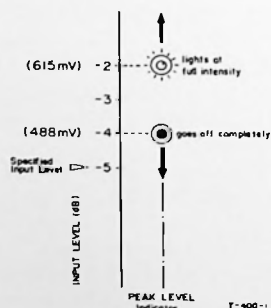

Fig. 7-9 LED Peak Level Indicator Setting
15. Adjust VR108 so that the PEAK LEVEL indicator lights as shown in Fig. 7-9, when a 400 Hz signal is applied at required level to the left channel LINE IN jack. Keep the right channel LINE IN jack disconnected from an AF oscillator.